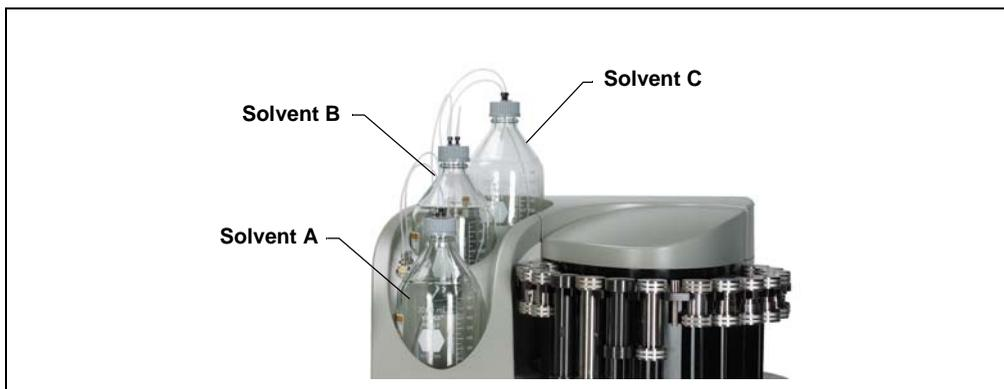

Figure B-8. Location of Solvent Reservoirs
4. Set the reservoir in the recess reserved for solvent A in the solvent reservoir tray (see Figure B-8).
6. Follow the steps above to install additional reservoirs. Be sure to install the reservoirs in the locations indicated in Figure B-8; when proportioning solvents, the method will be programmed according to these positions.